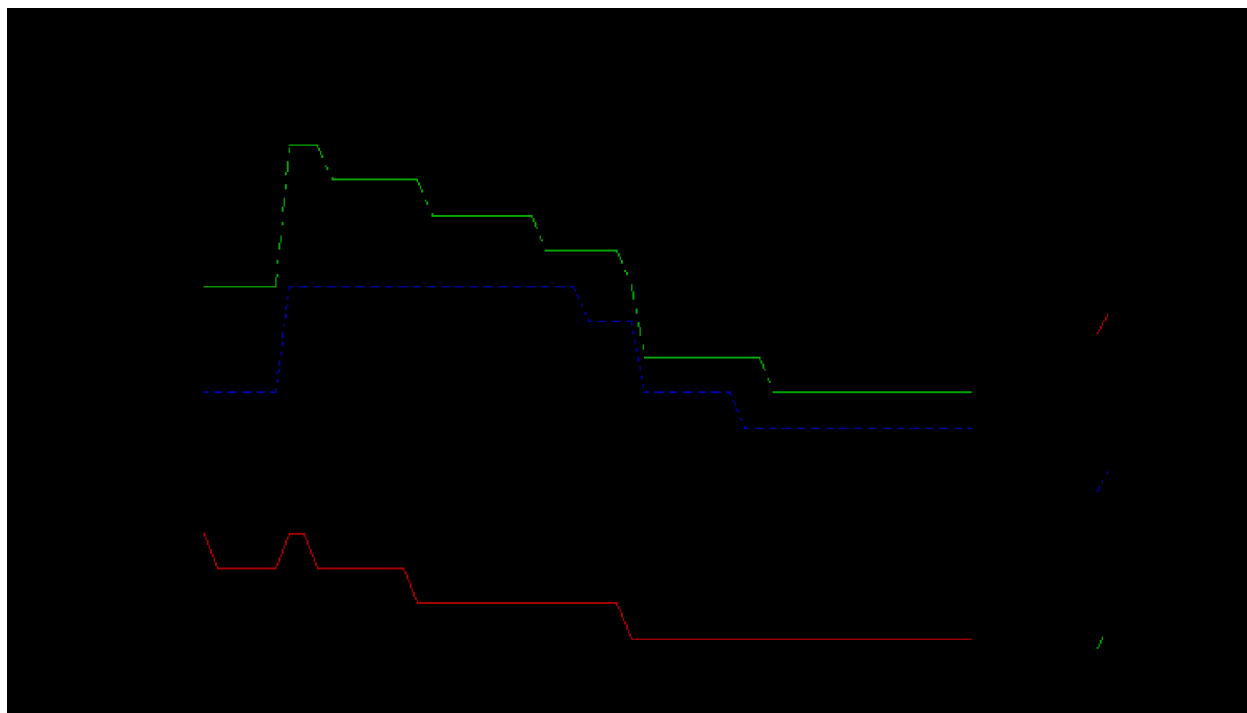

Figure 6.5 Phosphorus Concentration vs. Distance.
STEP 4. If you want to draw a QUAL2E graphic, click on the Graphics Button. A QUAL2E graphic for Example 2 is shown in Figure 6.5. To exit from QUAL2E, press ALT-F for File and then X for Exit.